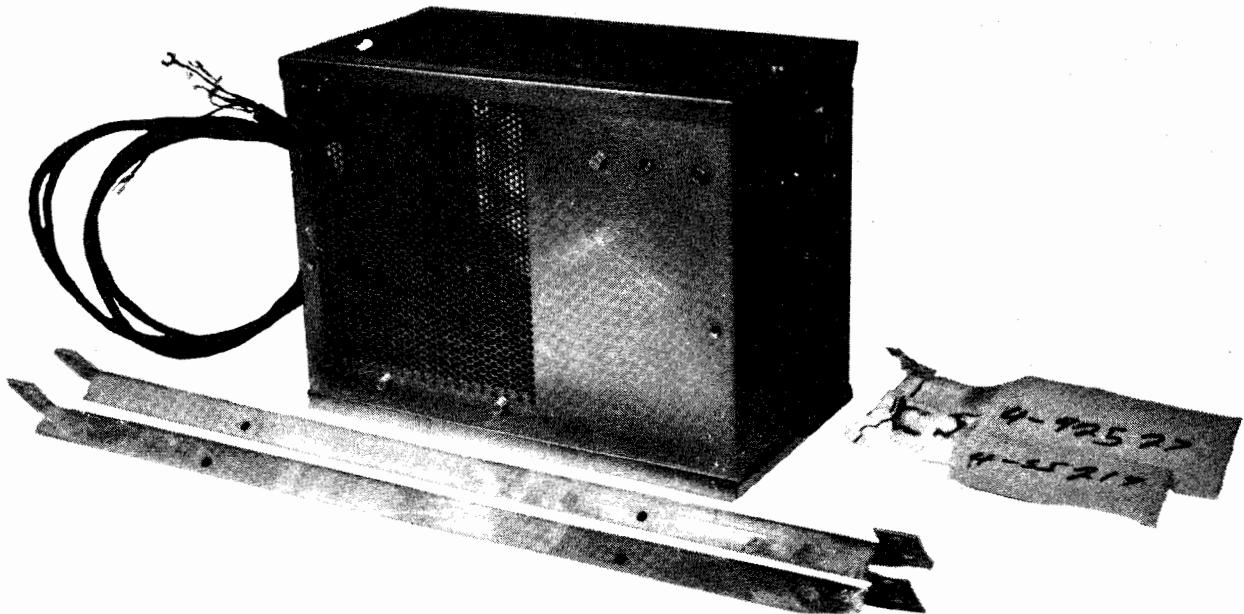

Figure 1 - ESA for Rack Mounting — Single Box Construction
- 1.01 Each electrical service assembly (ESA) provides an electrically shielded container for housing certain components which are used to suppress radio frequency (rfi) interference. Typical ESAs are illustrated in Figures 1 through 4.